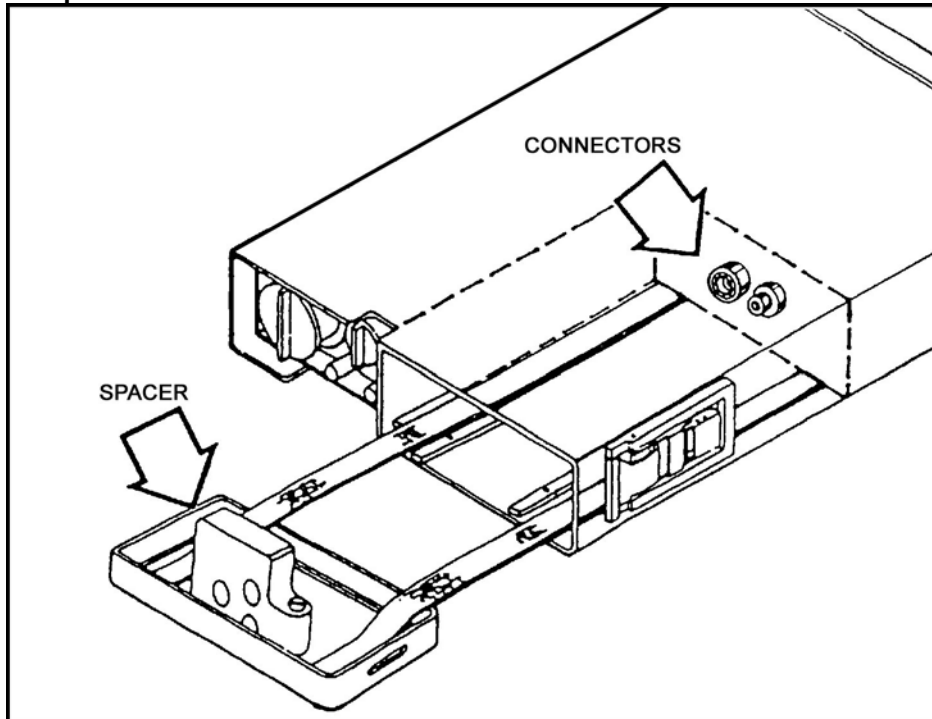

Figure 3. Battery compartment covers gasket and battery snaps.
i. Check the battery compartment cover, the cover's rubber gasket and plastic spacer, battery straps, battery compartment, and battery connectors (Figures 3 and 4).